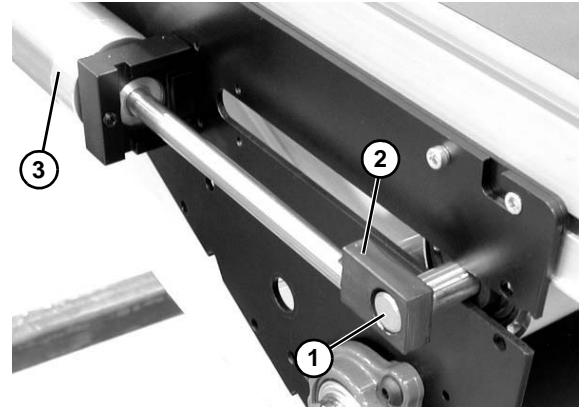

Figure 38
9. Push shaft (**Figure 38, item 1**) through block (**Figure 38, item 2**) on opposite side of center drive, slide block toward air cylinder (**Figure 38, item 3**).